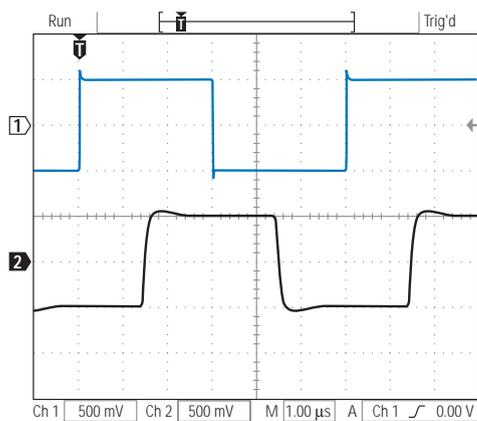

Figure 4: System Square Wave Response
*Figure 4* shows the response of this system when transmitting a square wave. Trace 1 is the input signal and trace 2 is the output. The transitions of the output signal have rise and fall times of 160 ns with about 5% of overshoot. Note that 1,000 feet of twisted-pair wire delays the input signal by 1.4  $\mu$ s. Differential gain and phase of the system was measured with an HP3577A Network Analyzer. A  $0.55 V_{pp}$  sine wave test signal was applied to the input, and the gain and phase were measured at 3.58 MHz (NTSC reference frequency). When the DC offset of the test signal changed from 0 to 1V, the gain changed  $-0.028$  dB (differential gain), and phase changed 0.23 degrees (differential phase).